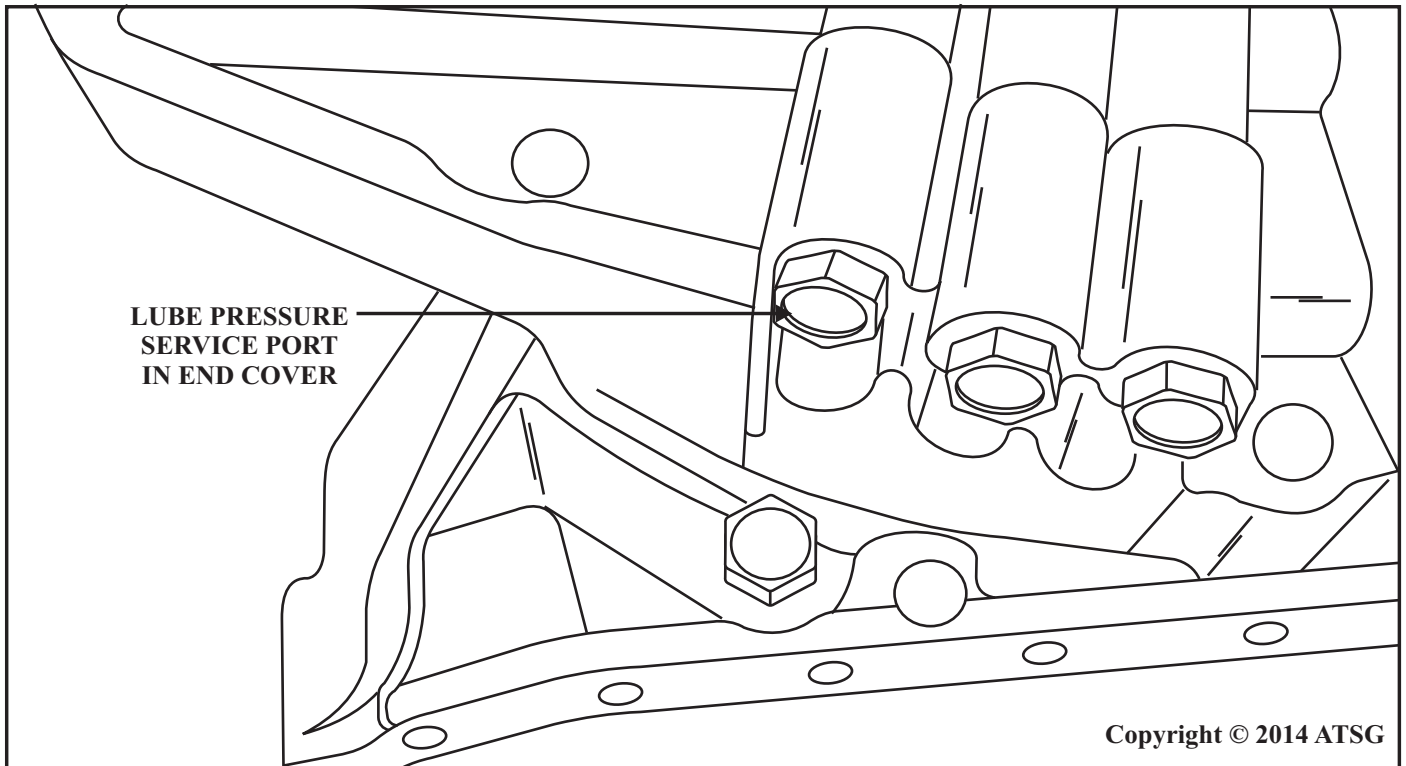
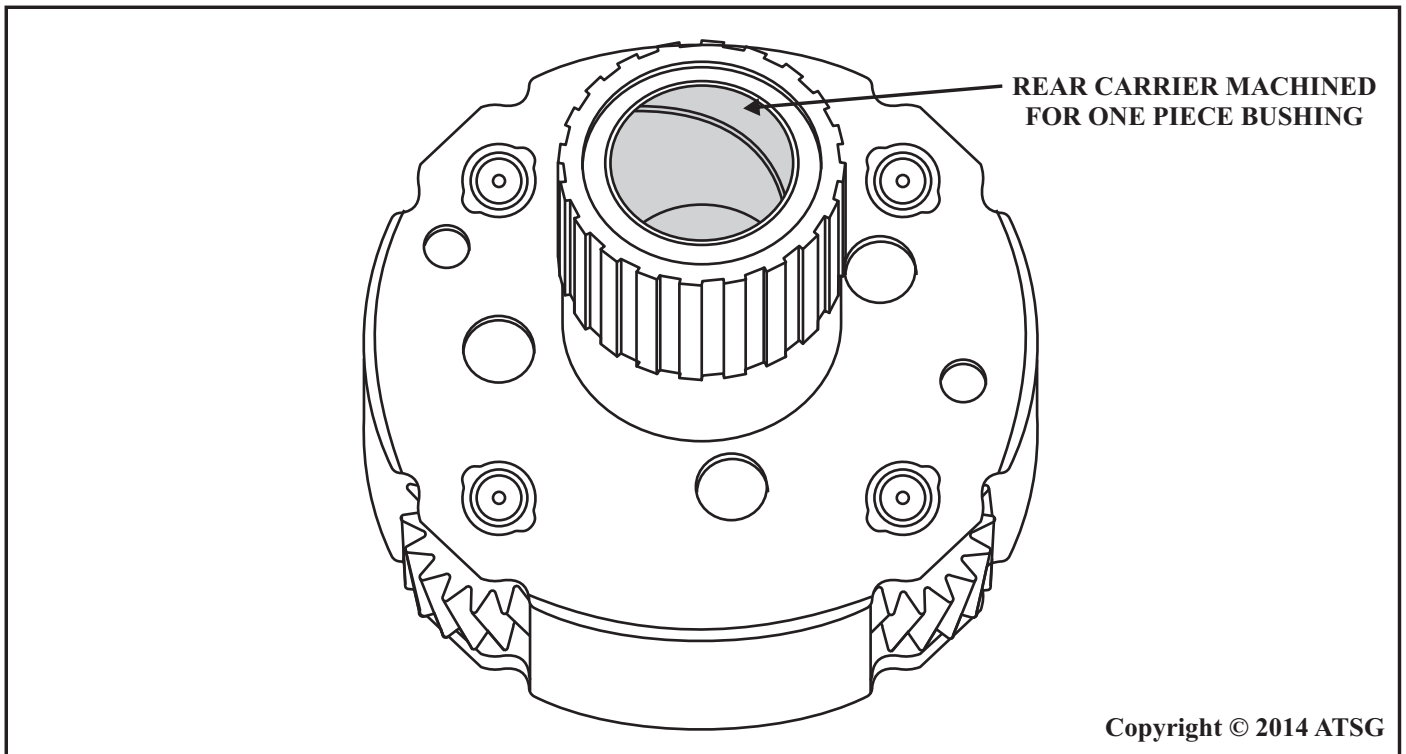
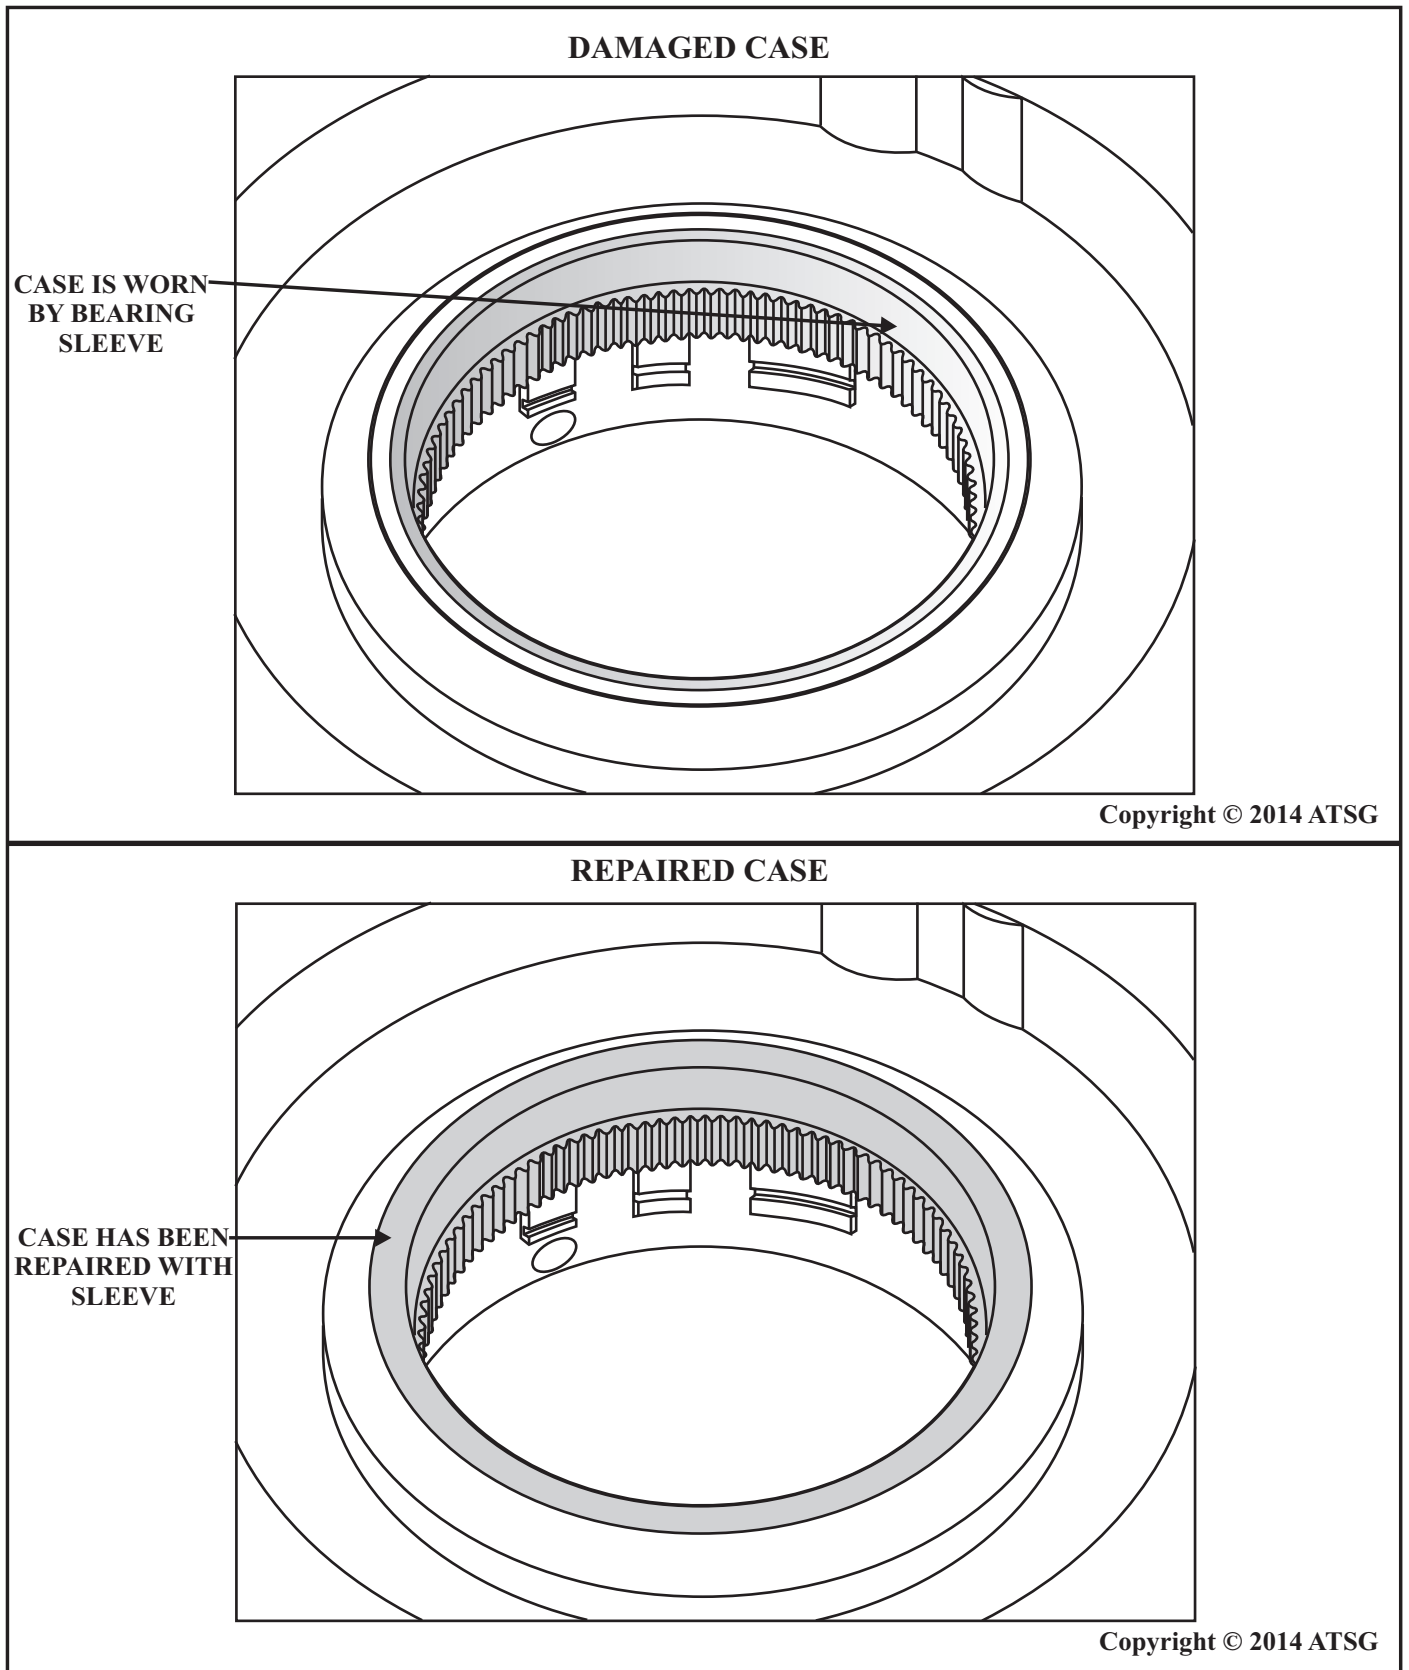

Figure 2
Figure 3
Figure 4
**CORRECTION:** The worn valves causing low lube pressure can be corrected by repairing the valve body using Sonnax products or by purchasing a new or tested valve body. Lube pressure can be checked at the lube pressure service port in the end cover as shown in Figure 2. Lube pressure can be high as 30 psi when temperature is minus 10 degrees Fahrenheit but at 150 degrees Fahrenheit normal lube pressure is approximately 5 psi in Drive and 8 psi in Reverse. If 0 to 3 psi is observed at operating temperature, then the valves and/or bushings are worn. The bushing wear issue can be corrected by installing a bushing kit available from Omega Machine & Tool. The rear carrier with the two piece bushing has to sent to Omega Machine & Tool where they will machine the carrier and install a one piece bushing, Refer to Figure 3. The case can be corrected by sending it to Omega Machine and Tool to be machined and sleeved, See figure 4.